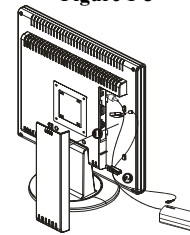

Figure 1-4
1. Remove the back panel ❶ from the rear of the monitor.(See Fig. 1-4)